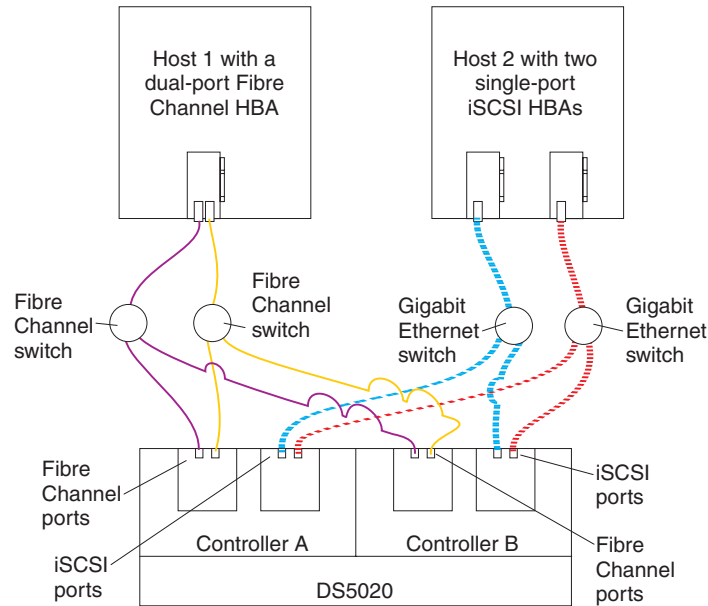

Figure 65. Example of a multiple-host, multiple-port, multiple-switch configuration
- Multiple-host, multiple-port, multiple-switch configuration, as shown in Figure 65 on page 91
Figure 65 on page 91 shows an example of a multiple-host, multiple-port, multiple-switch configuration.